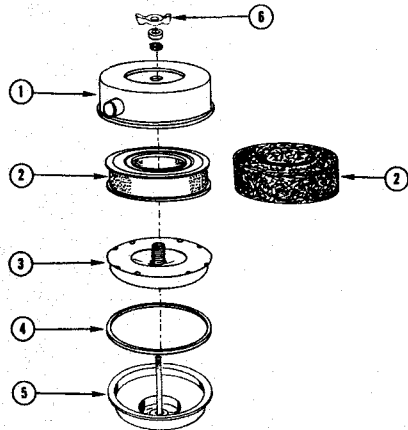

Fig. 2-22, (V51909). Crankcase breather - mesh element with vapor barrier
1. Remove wing nut (6, Fig. 2-22), flatwasher and rubber washer securing cover (1), to breather body (5).
2. Lift off cover and lift out breather element (2), vapor element (3) and gasket (4).
1. Install cleaned or new breather element (2, Fig. 2-22) and cleaned vapor element (3) to breather body (5).
2. Install rubber gasket (4) in cover (1), position cover assembly to body (5).
3. Install rubber washer, flatwasher and wing nut (6); tighten securely.
1. Remove wing nut (6, Fig. 2-22) flatwasher and rubber washer securing cover (1) and element assembly to breather.
2. Lift off cover and lift out element (2) and gasket (4).